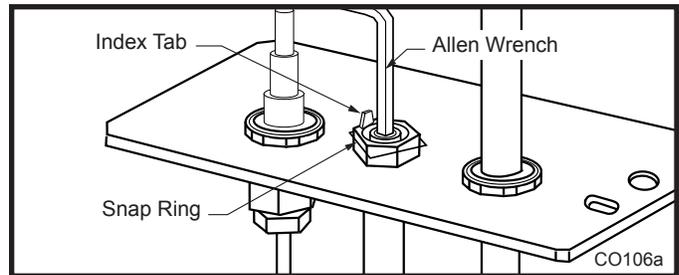

Fig. 77 Remove pilot orifice.
3. Remove pilot hood by lifting up. (Fig. 77) Do not re- move snap ring to remove pilot hood. **NOTE:** It is not necessary to remove the pilot tube for conversion.